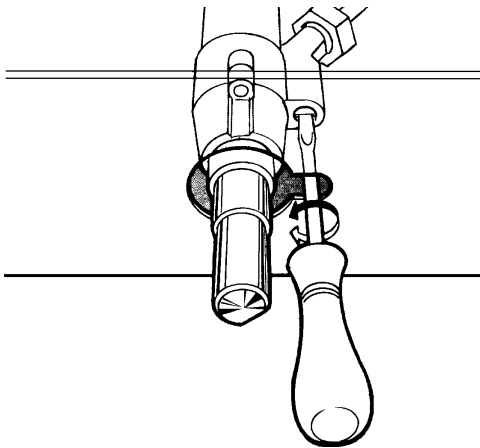

fig.10
- Remove the tap knob and turn the adjusting screw, situated to the side of the tap stem (fig.10) until you obtain a regular small flame, using a screwdriver (loosening the screw increases the height of the flame, tightening decreases it).